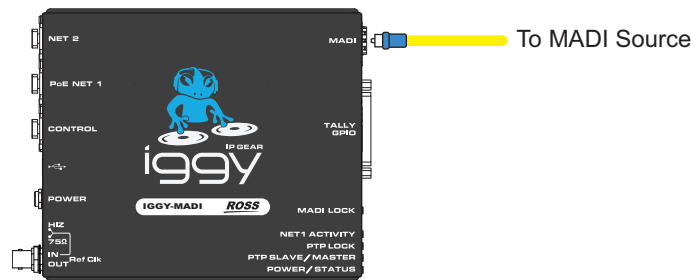

Figure 15 IGGY-MADI — MADI Port Connections
3. Cable your MADI module as required. (**Figure 15**)